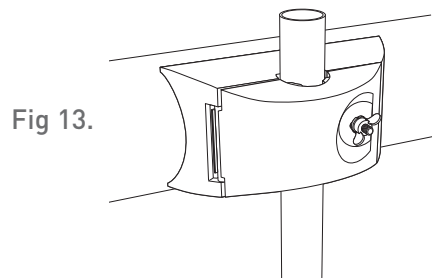

Fig 13.
- Close the cover and secure the 2 1/2" bolt with the wing nut. Do not over tighten. See Fig 13.